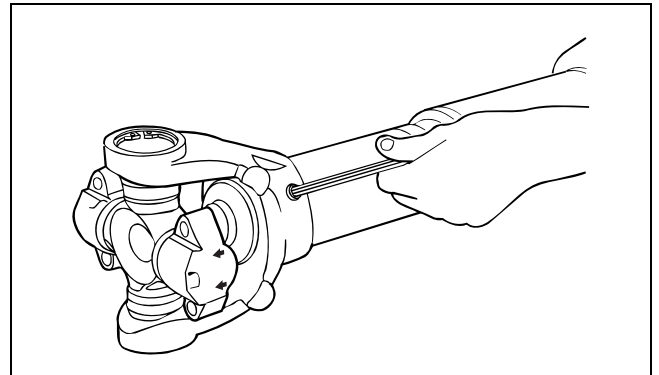

Figure 4.27
10. Use an Allen wrench to reinstall the grease plug. Figure 4.27.